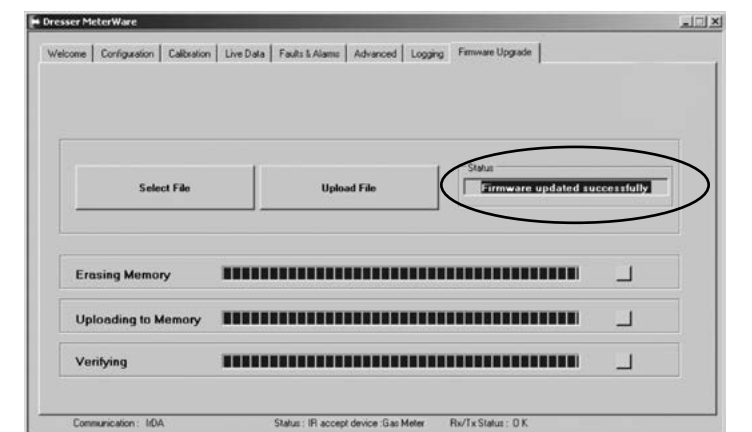

Figure 15.9 - Firmware upgrade is complete.
- C. When the firmware upgrade is complete, the three squares are green and the screen displays the message Firmware updated successfully. (Figure 15.9)